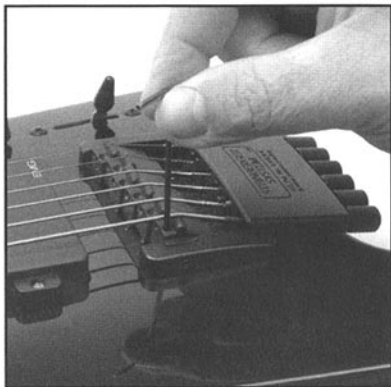

Figure 6
- Using the Hex wrench, adjust the saddle set screws up and down to desired action height. (*Figure 6*)
- Using the Hex wrench, adjust the saddle base set screws up and down to desired action height. (*Figure 6*) By adjusting the 3 set screws, you can change the angle of the saddle base and therefore, effect the string height.